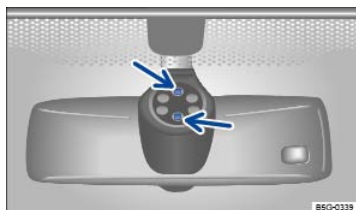

Fig. 91 Inside the front windshield above the inside mirror: Sensitive rain sensor surface (arrows).
The rain sensor may misread what is happening in the *detection zone of its sensitive rain-sensor surface* ⇒ Fig. 91 (arrows) and not work for a number of reasons which may include:
- **Dirt:** Caked-on dust, wax, any other buildup on the windshield (lotus effect), or car-wash detergent residue can lower the rain sensor's sensitivity and cause it to react too slowly or not at all. Clean the rain sensor's sensitive surface → Fig. 91 (arrows) regularly and check the wiper blades for wear or damage.